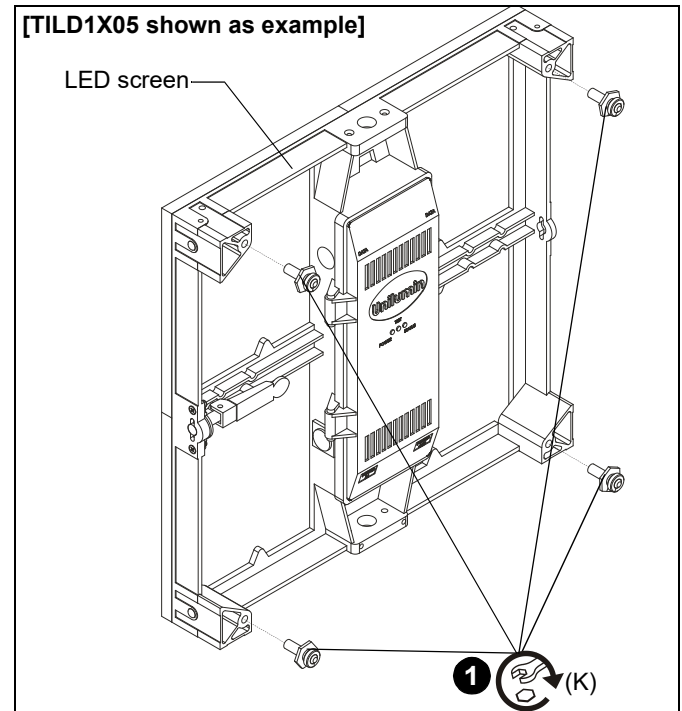

Figure 4
1. Attach four mounting buttons (L) per LED screen, one to each corner of LED screen, with four M5 x 20mm Phillips flat head screws (K). (See Figure 4)